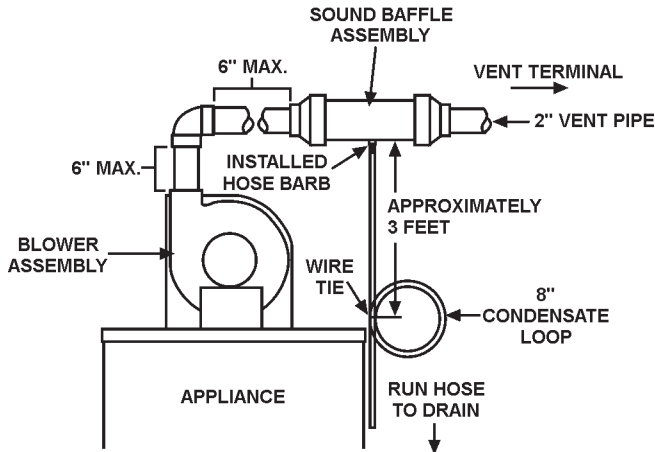

FIGURE 2: Typical Horizontal Installation
2. Use standard PVC cement (not included with kit) and glue the two inch PVC pipe coming from the blower into the sound baffle. MAKE SURE THE 1/2" FITTING IS ON THE BOTTOM SIDE OF THE SOUND BAFFLE ASSEMBLY. This will be used to run the condensate hose to a suitable drain. See typical vent installation in Figure 2.